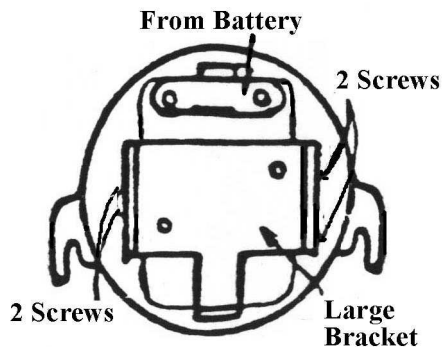

FIGURE 1
3. Remove four (4) 6-32 screws in the **sides** of the coil bracket (not from the **bottom**). See Figure 1.